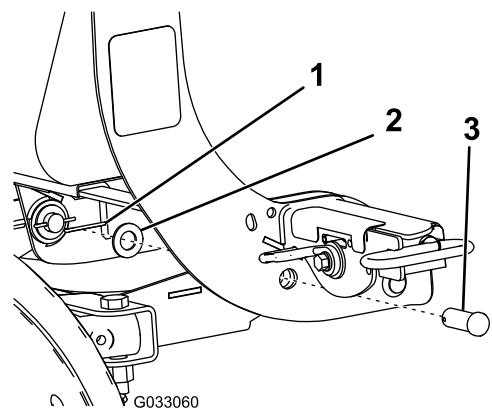

Figure 8
- Align the pivot holes of the coupler tower with the pivot holes on the push-frame assembly, and secure them as shown in Figure 8.